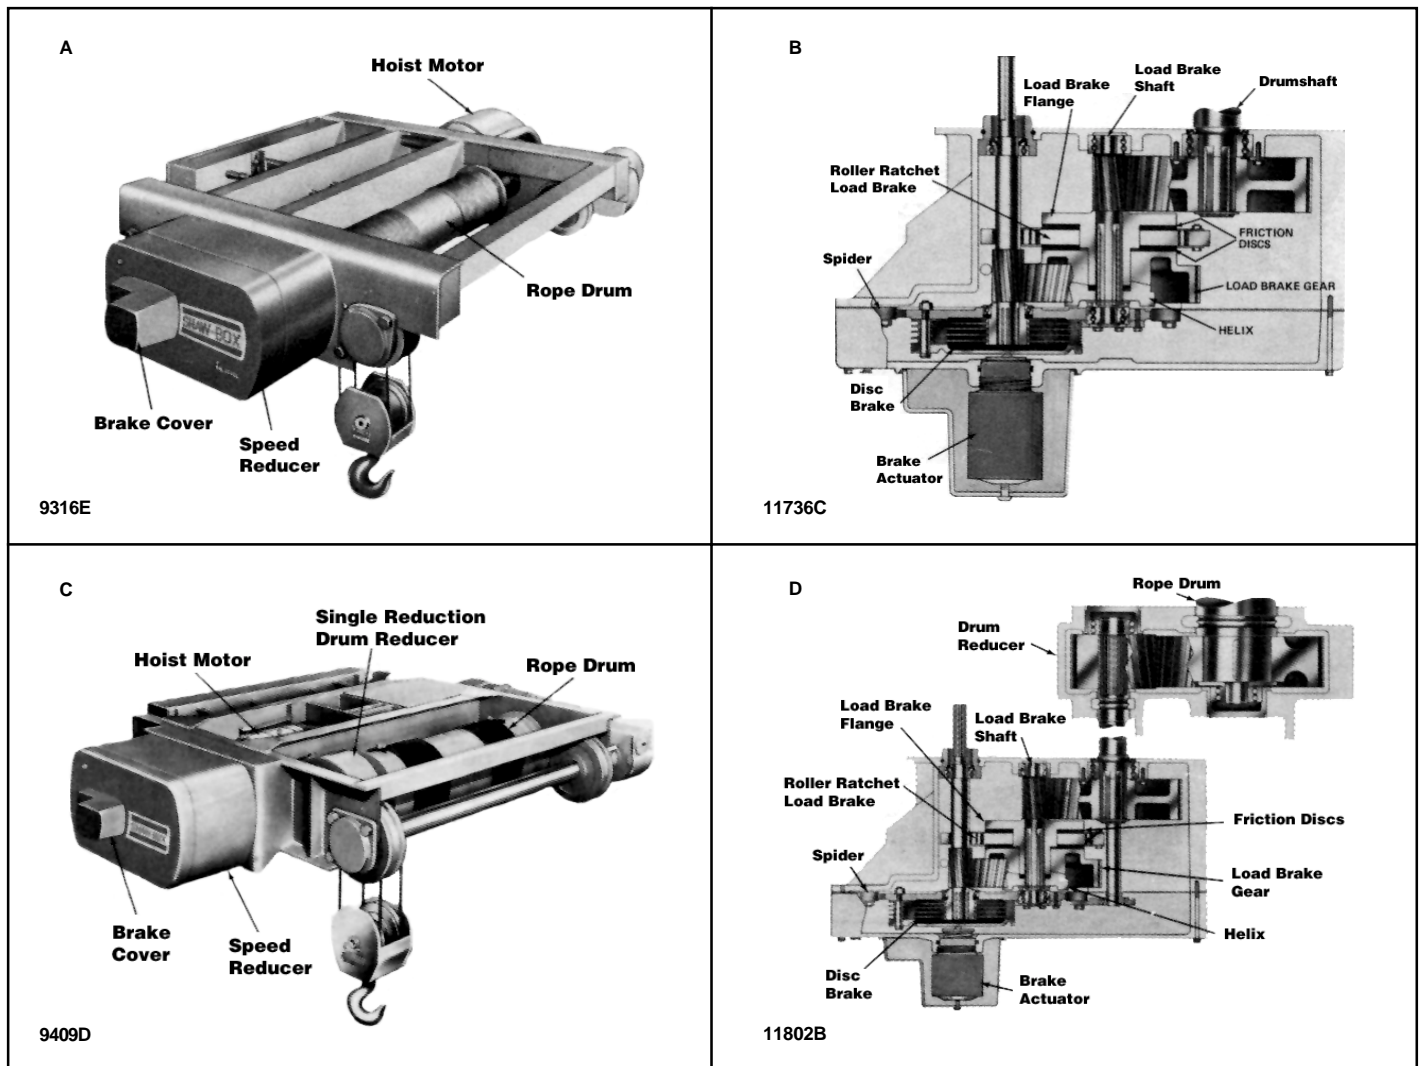

Figure 8-1. Hoist Machinery Arrangements
Standard hoist drives can be classified into two configurations which are described as follows and shown in Figure 8-1.
**a. General.** Hoist speed reducers have vertically split housings with the housing bolted to the trolley sides. This type reducer is shown in Figure 8-1B and 8-1D. This double reduction unit is usually equipped with a cast aluminum housing and helical gearing. Shafts are carried on ball bearings. A spider bolted to the gear case housing forms the support for one end of each shaft. The units shown are equipped with a roller ratchet type of mechanical load brake. As shown in Figure 8-113, this gear case is also used in conjunction with a drum speed reducer. This drum reducer is welded to the trolley side as shown in Figure 8-1 D.
**b. Construction.** Refer to Figure 8-1. A roller-ratchet type load brake is used on hoists with speed reducers of the type shown in Figures 8-1A and 8-1C. As shown in Figure 8-1B, the roller-ratchet brake is incorporated on the shaft next to the input (high speed) shaft and consists of the load brake flange, friction discs, load brake ratchet, gear with helix machined into the face of the hub and the helix which is splined to the shaft, all assembled as shown.
- (4) Pull off brake helix (see Figure 8-1 B).